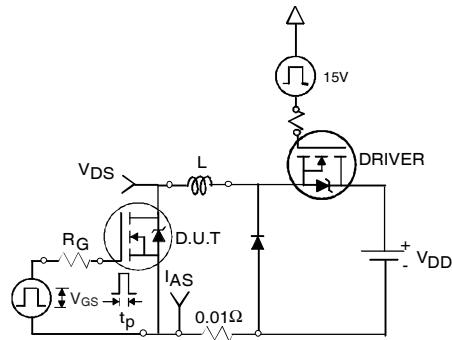

Fig 12a. Unclamped Inductive Test Circuit
| I_{AR} | Avalanche Current ① | See Fig.12a,12b,15,16 | A |
3. Equation below based on circuit and waveforms shown in Figures 12a, 12b.